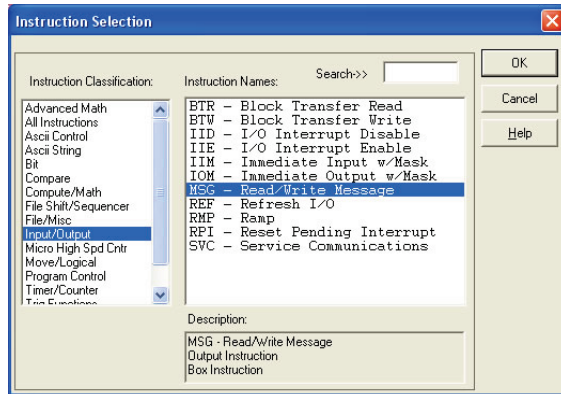

Figure 69: MSG Instruction Selection
- d) Select the “MSG” instruction from the “Input/Output” classification, then click OK. Refer to Figure 69.